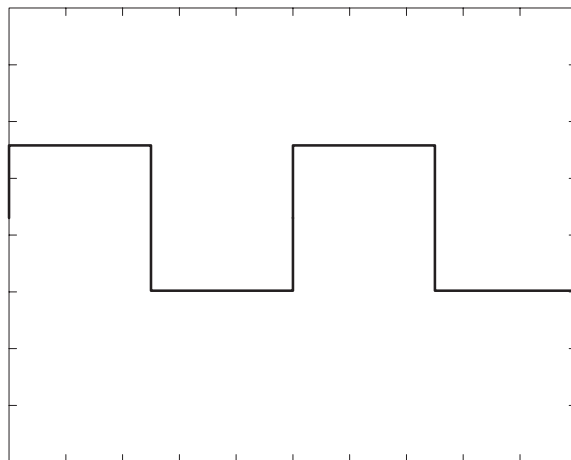

Figure 4-34: Waveform output when SW4 is closed
- b. Verify that the oscilloscope displays the waveform shown in Figure 4-34.